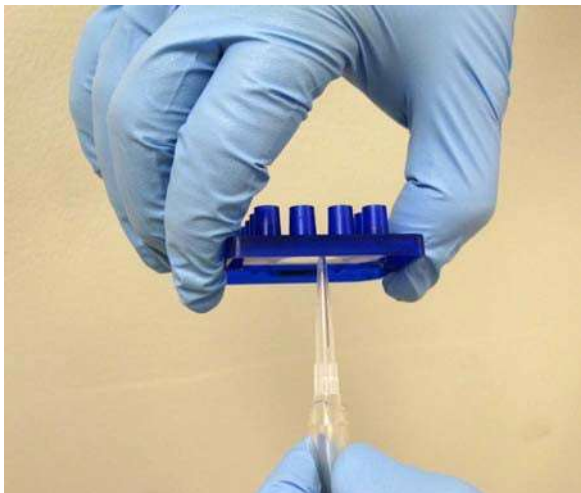

Figure 15. Removing an air bubble or clog by suctioning the sipper with a vacuum
- 18 If air bubbles are not dislodged after a reprime: Fill all active wells with 100 μ L of Chip Storage Buffer, then suction the sipper with a vacuum line as shown in Figure 15 until droplets of fluid flow out from the sipper. When suctioning the sipper, be careful not to bend or break the sipper. To facilitate this, cut the end of the pipette tip attached to the vacuum line to widen the mouth.